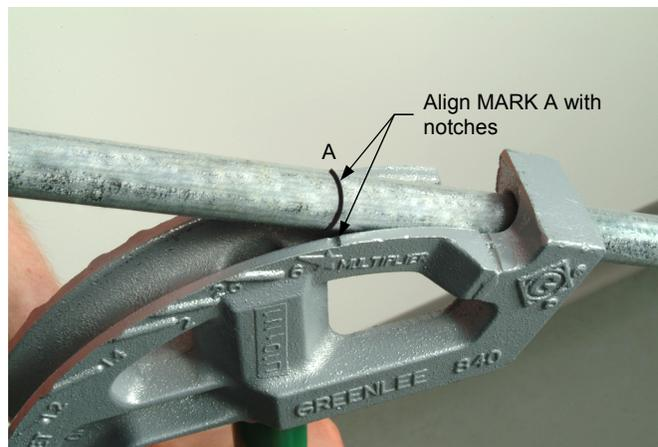

Figure 42. Line up Mark A with notches.
- Select the bender designed for 1/2" EMT. Feed the conduit in the bender and line up bending Mark A on the conduit with the two NOTCHES near the star on the bender shoe as shown in Figure 42.